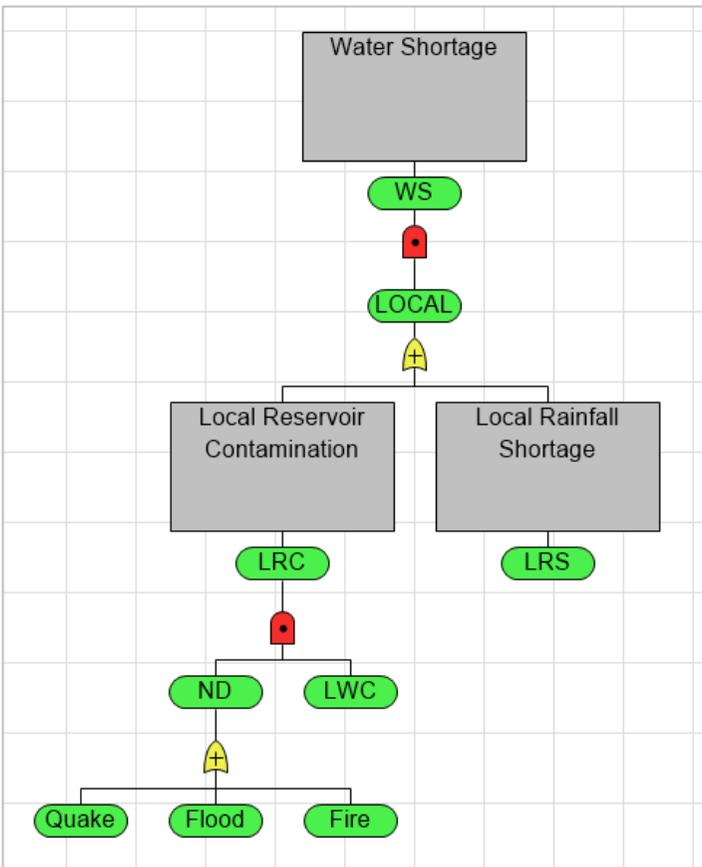

Figure 3-15. Fault Tree with Water Shortage as the Top Event
- ⇒ Connect the LOCAL binary node to the new AND gate. Your fault tree should look like Figure 3-15.